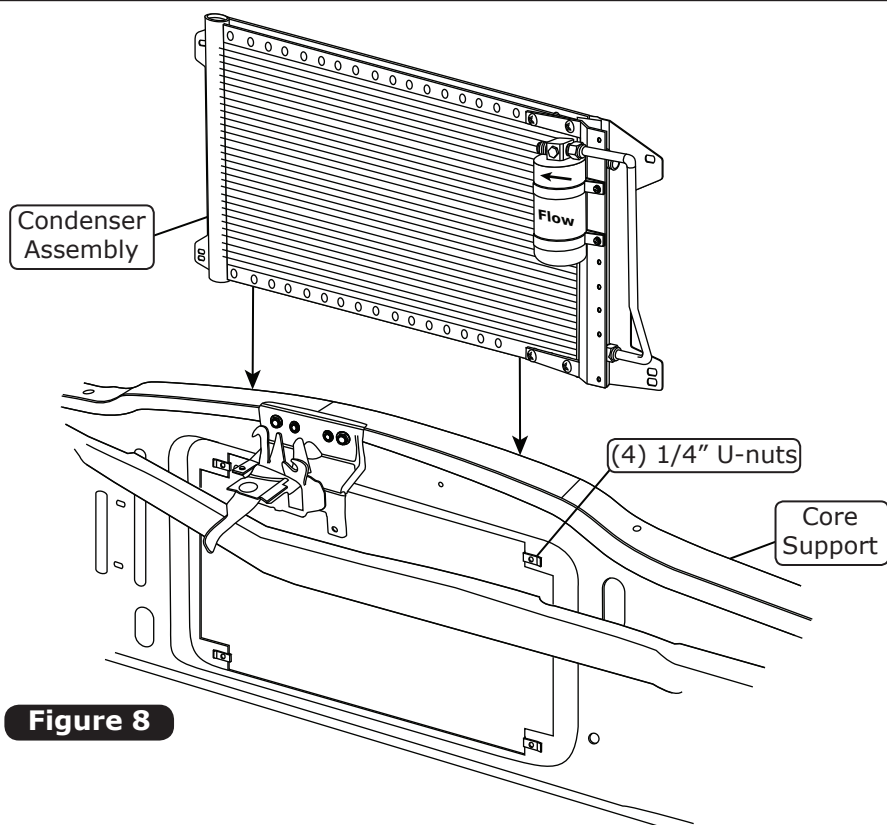

Figure 8
1. Install (4) 1/4" U-nuts onto the core support as shown in Figure 8, below.
2. Install the condenser assembly between the radiator and the core support as shown in Figure 8, below.